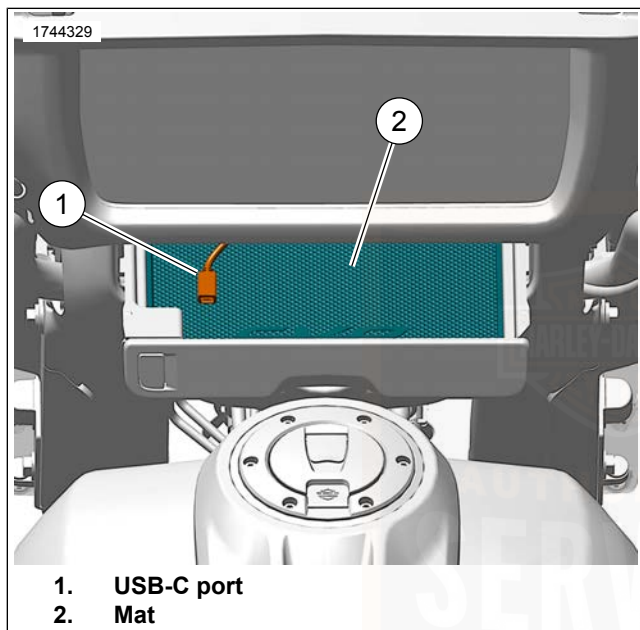

Figure 51. Media Compartment (Open): Fork Mounted Fairing
Install USB or media device: See Figure 51. Connect device to the USB-C port (1). Rest device on the padded mat (2). Close the compartment door.